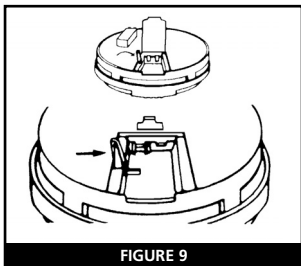

FIGURE 9
**CAUTION! IF THE BATTERY REMINDER FINGER IS NOT HELD DOWN IN THE BATTERY COMPARTMENT BY THE BATTERY, THE BATTERY DOOR WILL NOT CLOSE, THE AC QUICK CONNECTOR WILL NOT ATTACH TO THE ALARM, AND THE ALARM WILL NOT ATTACH TO THE TRIM RING (SEE SECTION 7, FIGURE 9).**
When installing the battery, press the battery reminder finger down into the battery compartment and install the battery (see figure 9).